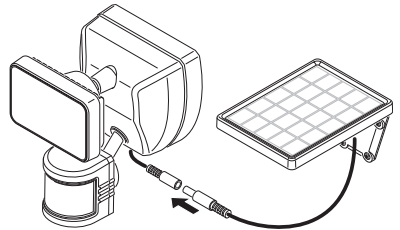

Figure 6
3. Carefully route the solar panel cable to the light fixture. Plug the solar panel cable into the connector extending from the bottom of the light fixture (see Figure 6).